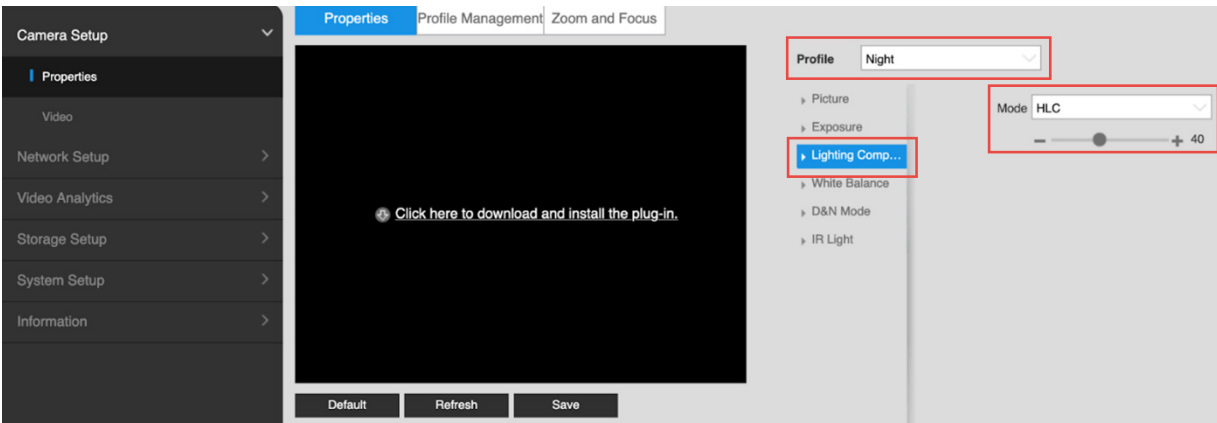

Fig. 4.17
- Adjust the slider bar beneath the field to 40. See Fig. 4.17